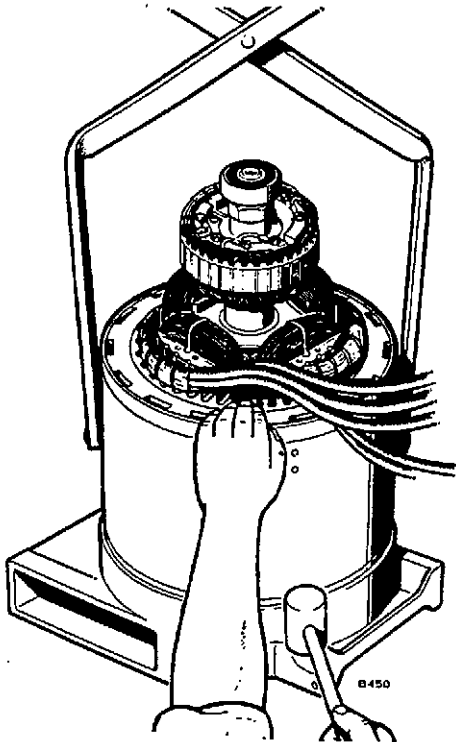

FIGURE 59. STATOR REMOVAL
6. Using a safe lifting device, stator handling tongs, or chain and lift hooks, lift stator assembly from gear case adapter. If necessary, lift unit off bench about one inch and tap adapter housing with a soft faced hammer to free stator from adapter, Figure 59.